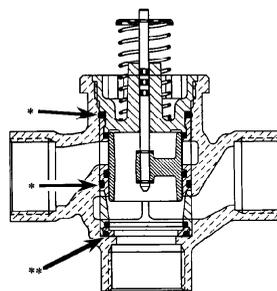

Figure 6
- Clean the valve surfaces marked \* and \*\* in Figure 6 to ensure the new cartridge O-rings seal at these points. Use care to avoid damage to these surfaces ( \*\* for 3-way valves only).